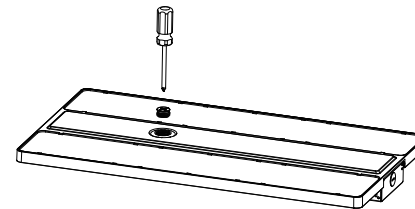

Figure 9
- Step1. Use a screwdriver to remove the 1/2 plug from the sensor;(Figure 9)